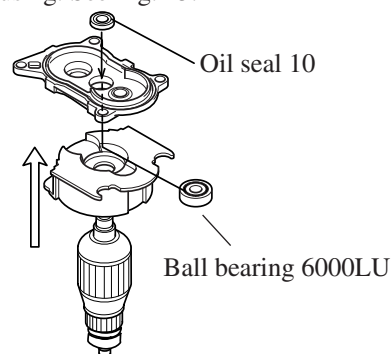

Fig. 15
(8) In advance, assemble ball bearing 6000LU and oil seal 10 to gear housing by pressing. And then, assemble armature and baffle plate to gear housing. See Fig. 15.